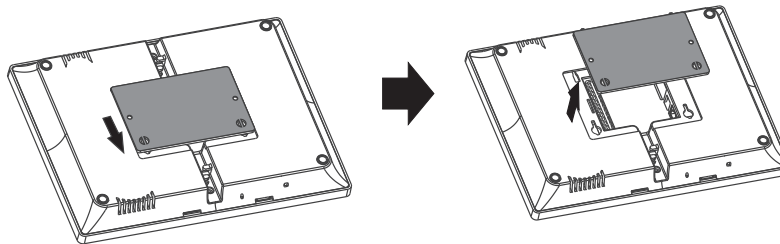

Figure 2-1
A. Push the bracket downward to loosen and separate the bracket from the main engine, as shown in Figure 2-1;